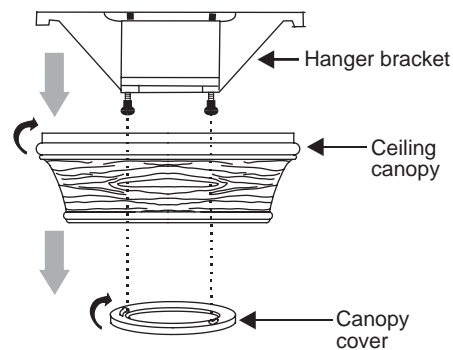

Figure 5
Step 1. Remove the decorative canopy bottom cover from the canopy by turning the cover counter clockwise.(Fig. 5)